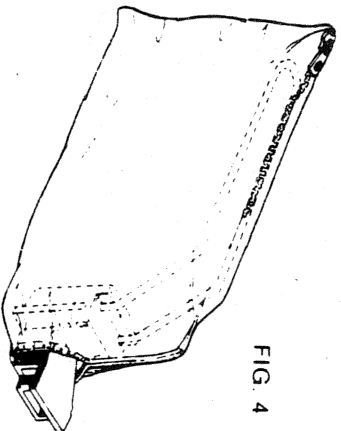

FIG. 4
2. With wire frame attached, insert assembly into dust collecting bag so the plastic adapter protrudes through the opening in the end of the bag, and the wire frame is positioned at the zippered opening. (Fig. 4)